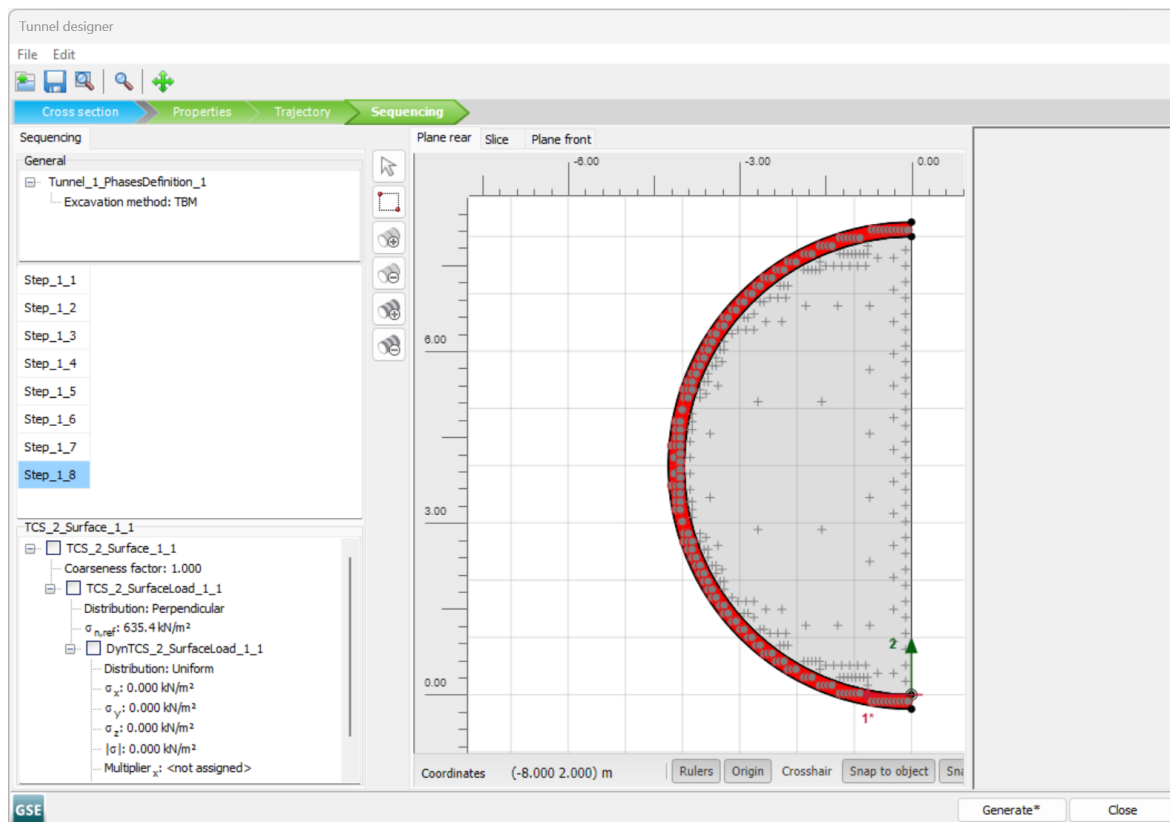

Figure 80: Plane rear tab Tunnel designer <Step_1_8> Deactivation of jacks forces
- In the **Selection explorer**, deactivate the surface load corresponding to the thrusting jacks (Figure 80 (on page 106)).